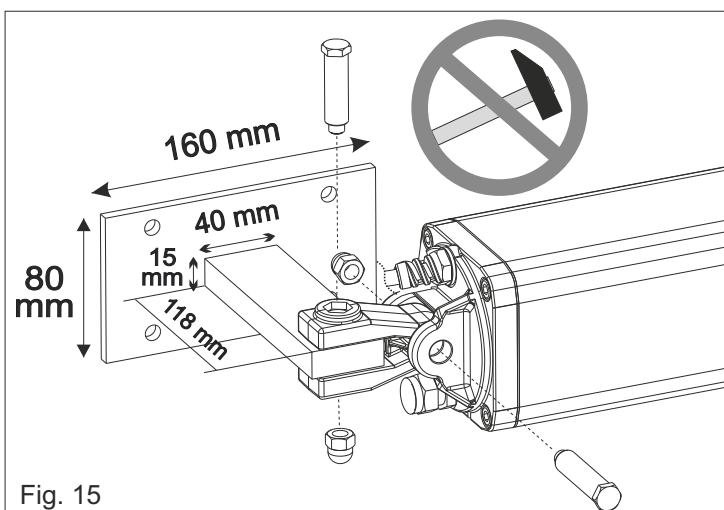

Fig. 15
- Mount the operator oscillating fork on the rear bracket (previously fixed on the gate), by the use of the two fixing pins (long and short) then secure them as shown in Fig. 15